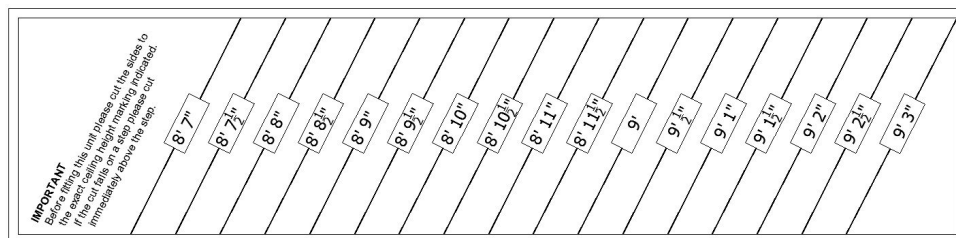

Fig. 1.
1. Please see the measuring graph on the side of the ladder on your Skylark electric attic stairs, see Fig. 1. This indicates the minimum and maximum height your Skylark electric attic stairs will reach. If your ladder is delivered to the UK this graph will not be on your ladder and will be pre-cut already.